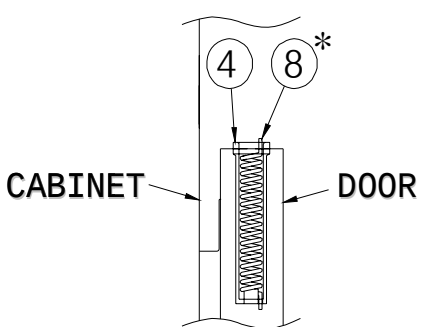

Figure 3.
- 3) Insert spring (#8) into the spring guide (#4) as indicated in figure 3.